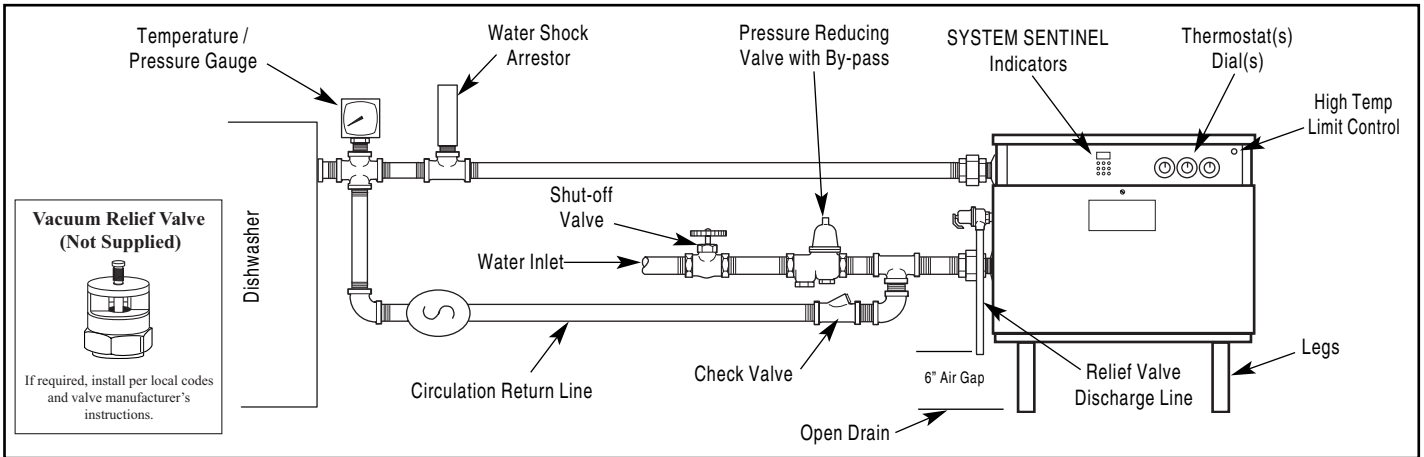

Figure 1. — Recommended installation for dishwashing sanitizing rinse application
- 1. **INSPECT SHIPMENT**—for possible damage. The manufacturer's responsibility ceases upon delivery of goods to the carrier in good condition. Any claims for damage, shortage in shipments, or non-delivery must be filed immediately against carrier by consignee. Refer to Fig. 1 for installation with commercial dishwasher to pro-